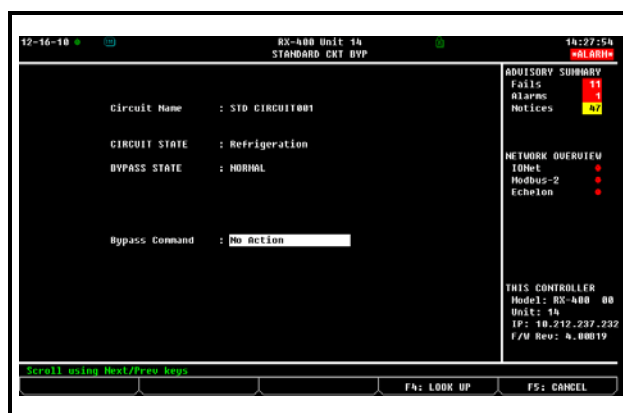

Figure 3-6 - Circuit Bypass Screen (RX-400 Version Shown)
4. The Circuit Bypass screen (see **Figure 3-6**) will display the circuit name, its current state, and the bypass state. The **Bypass Command** field will be highlighted.